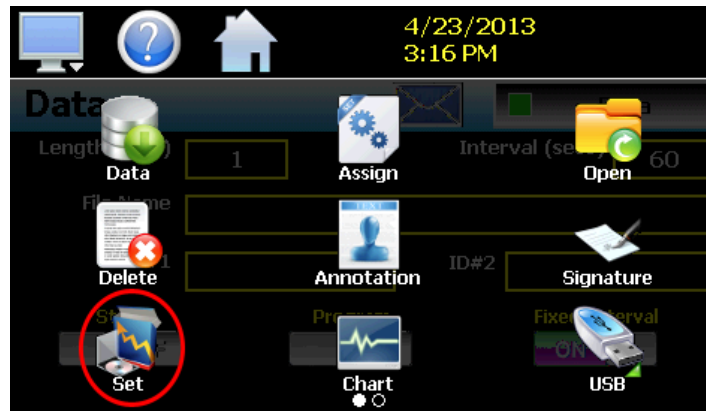

Fig. 69: Set Icon
- To edit the settings for the historical plot, select HOME - MONITOR - CHART - SET icons (Fig. 69).